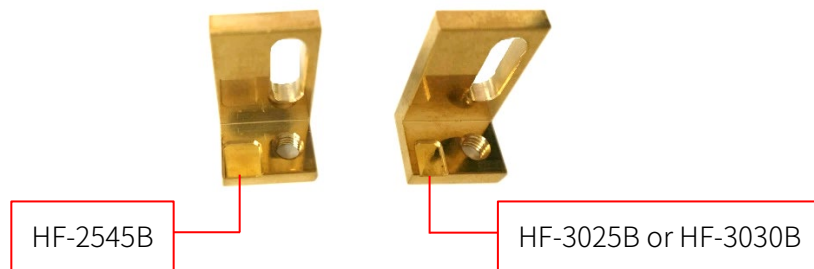
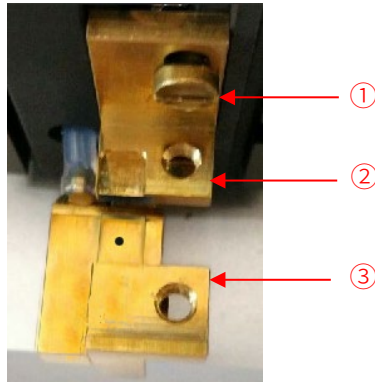

Figure 6-3
Figure 6-4
4) First check whether the jaw groove corresponds to the size of the new filament, as shown in Figure 6-3. If the size corresponds, install the new filament directly on the jaw. If the size does not correspond, unscrew the screw ① on the jaw and remove the jaw ②, as shown in Figure 6-4.
- 5) Replace the jaw ② corresponding to the size of the new filament, and tighten the screw ①. Note that the jaw groove ② should be flush with the jaw ③, as shown in Figure 6-4.